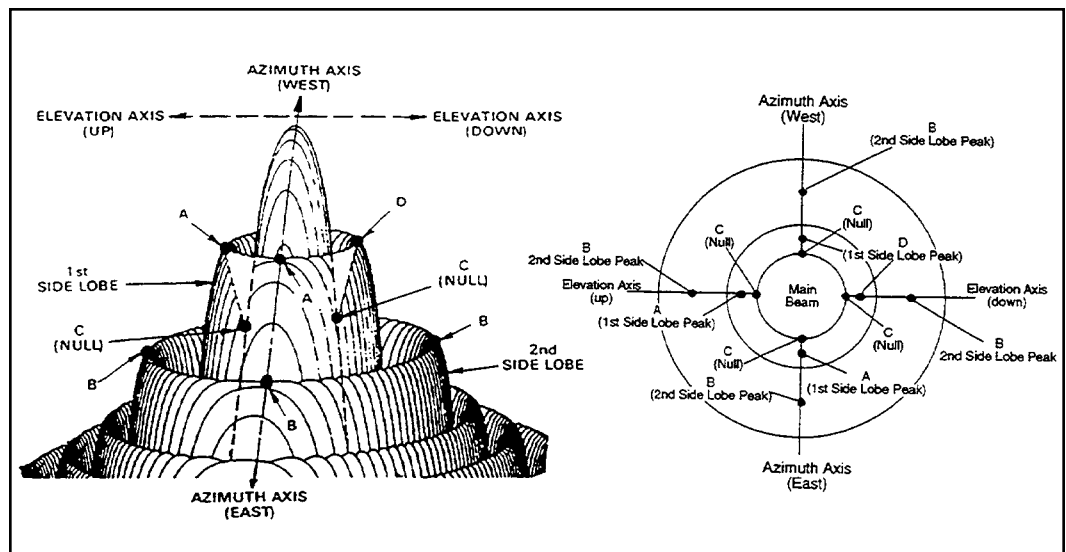

Figure 3
Step 4 With the antenna peaked on a side lobe in azimuth and/or elevation, move the antenna in azimuth while observing the spectrum analyzer screen as shown in Figure 3.